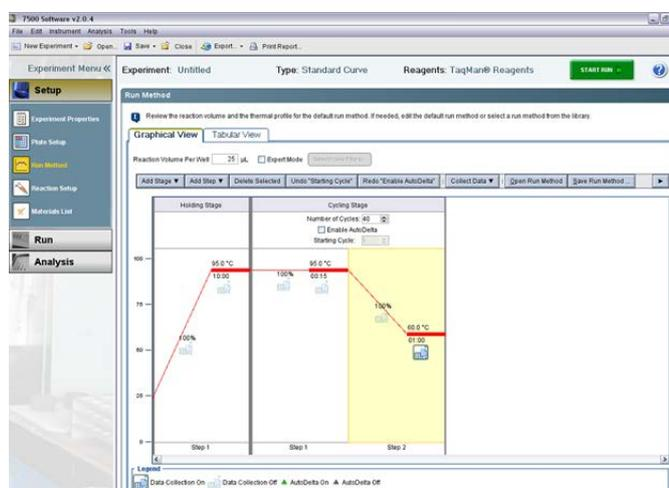

Figure 2. "Run Method" screen.
5. Under “Setup” > “Run Method” menu (see Figure 2):